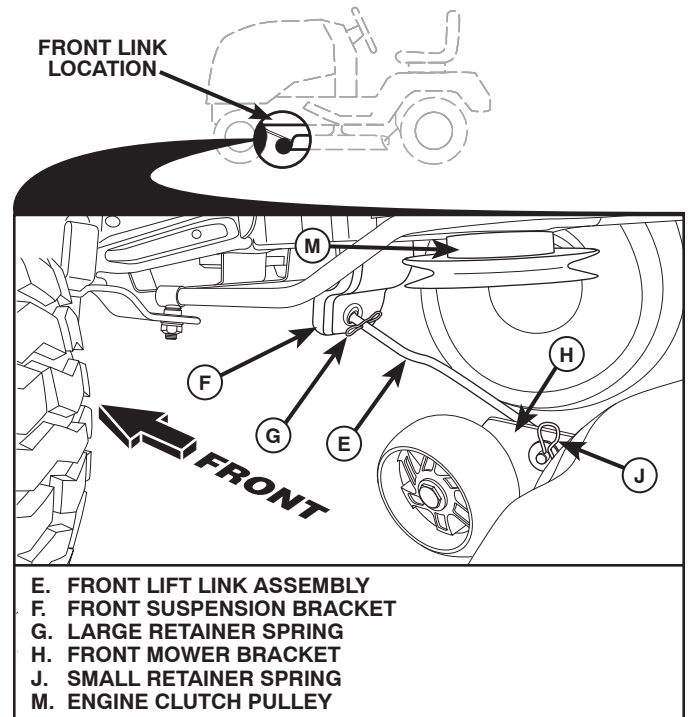

Fig. 30
8 ATTACH FRONT LINK (E) (See Fig. 30)
- From front of tractor, insert rod end of front link (E) through front hole in tractor front suspension bracket (F).
- Move to left side of mower and insert large retainer spring (G) through hole in front link (E) behind front suspension bracket (F).
- Insert other end of link (E) into hole in front mower bracket (H) and secure with washer and small retainer spring (J).